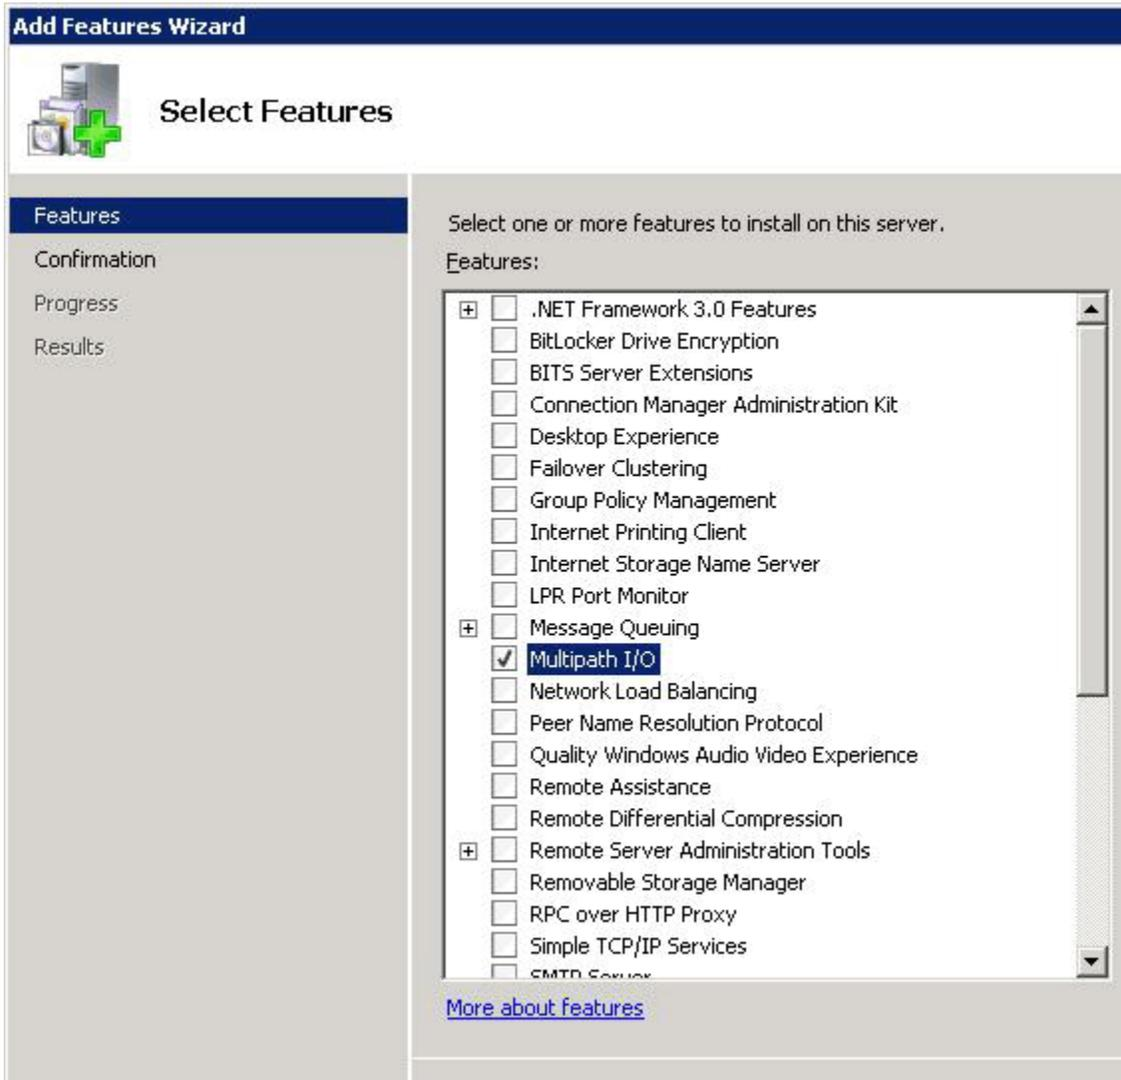

Figure 49 Add Features page
1. Check the box for Multipath I/O in the Add Features page (Figure 49).